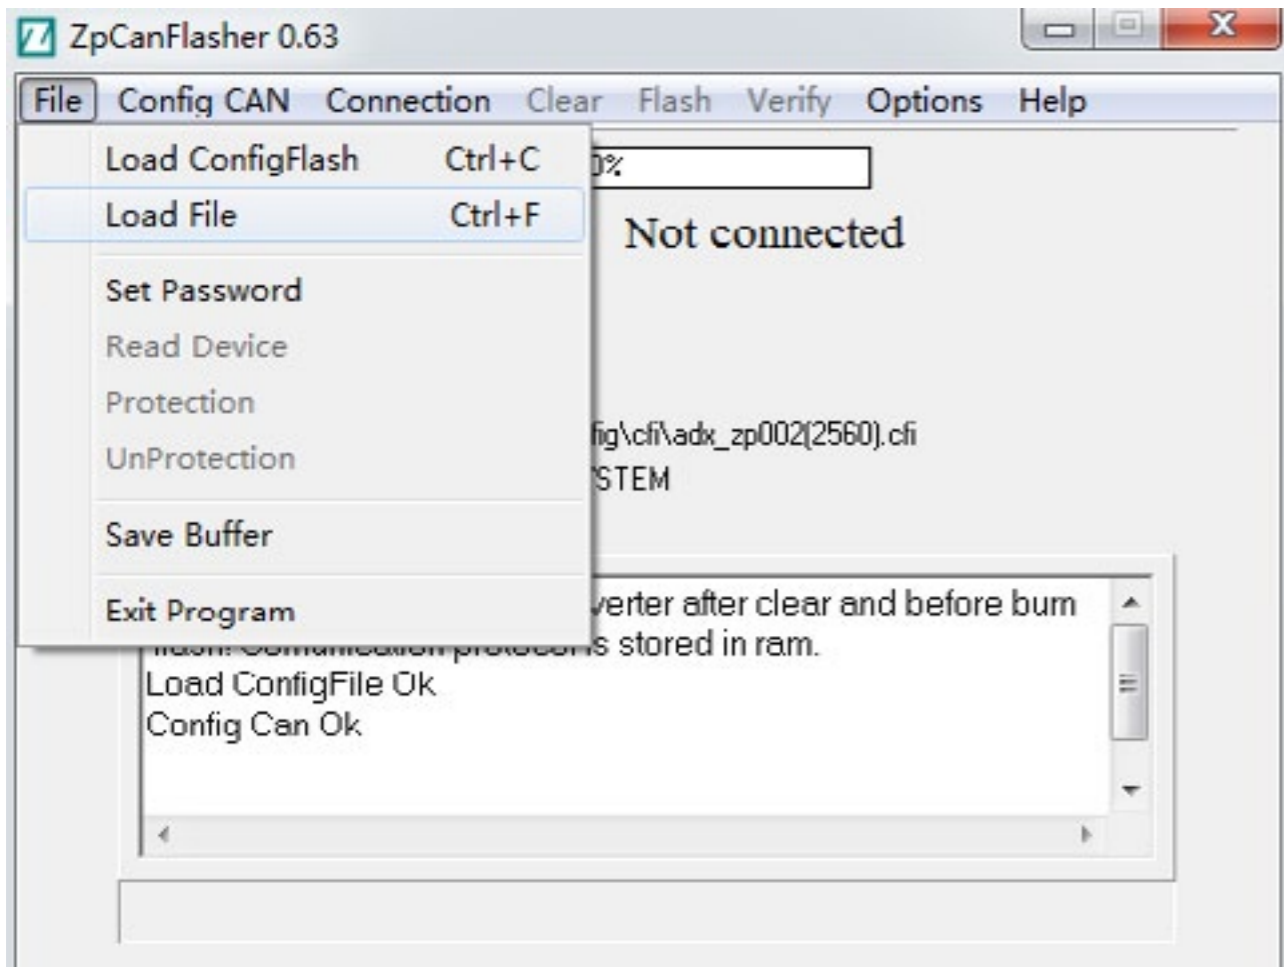

Fig.1.1.11
5. Select the controller software and click “File” → “Load File”, as shown in Fig.1.1.11.